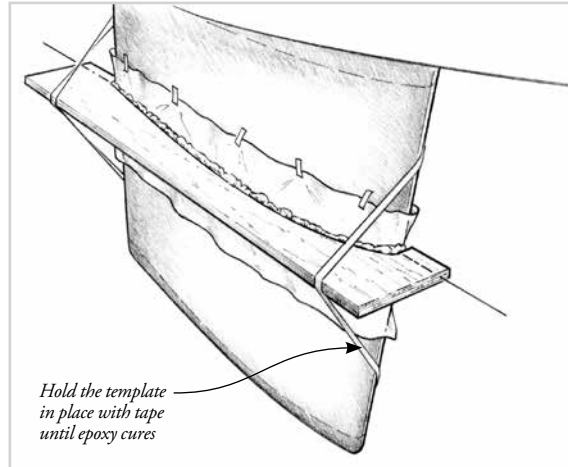

Figure 14-17 Press the template in place against the surface until the thickened mixture makes contact with the surface everywhere along the profile.
4. Press the template in place against the surface until the thickened mixture makes contact with the surface everywhere along the profile (Figure 14-17). Use duct tape or masking